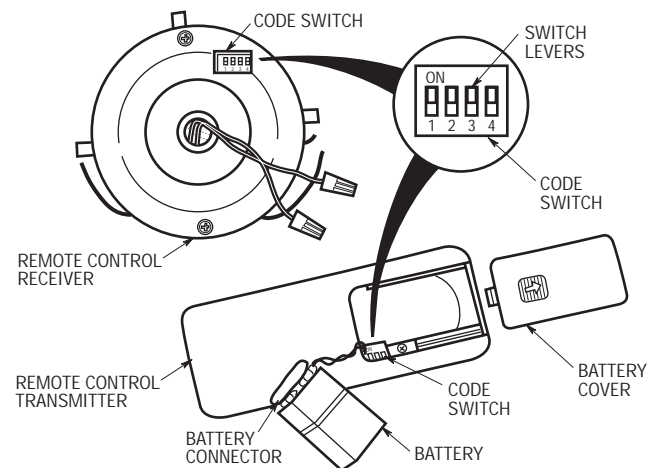

Figure 1
1. Remove the battery cover by pressing firmly below the arrow and sliding the cover off the control (Figure 1).
1. Slide the four switch levers (Figure 1) in the remote control transmitter to your choice of ON (up) or down positions. Use a ball-point pen or small screwdriver and slide the levers firmly up or down.